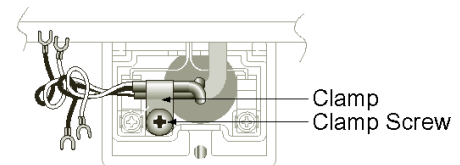

Fig.3
11. Loosen the clamp screw and secure the wires with the clamp. The clamp is in the box with the temperature controller. Make sure the wire lengths are of sufficient length. There should be no tension in the wires. (Fig. 3)